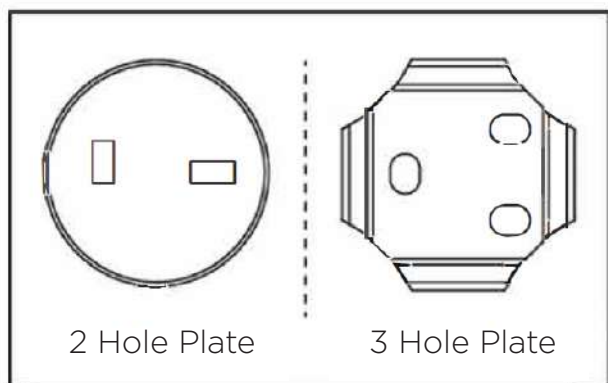

Fig. 1
1. Establish the position for the accessory and mark out the fixing holes (Fig. 1). We recommend that the centre distance of the accessory assembly is checked prior to drilling.
1. Establish the position for the mirror and mark out the fixing holes (Fig. 1).